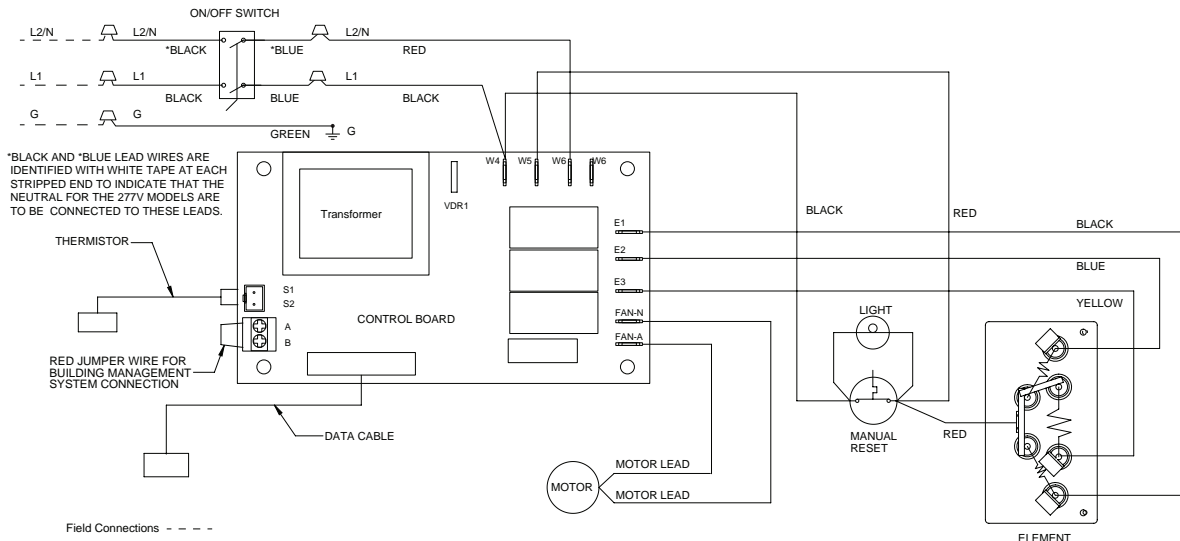

Figure 3 - Wiring Diagram
7. Insert power supply cable through cable clamp, allowing at least 6" (152 mm) of leads to extend inside the back box. Connect the blue lead wires of ON/OFF switch to the supply wire leads using wire connectors (see Figure 3, Wiring Diagram).
5. Insert power supply cable through cable clamp, allowing at least 6" (152 mm) of leads to extend inside the back box. Connect the blue lead wires of ON/OFF switch to the supply wire leads using wire connectors (see Figure 3, Wiring Diagram).
To utilize the BMS capabilities of this unit, remove the red jumper wire between terminals A and B on the control terminal board ( see figure 3, wiring diagram). Connect two wires from a dry contact (no voltage) in the BMS system to terminals A and B.